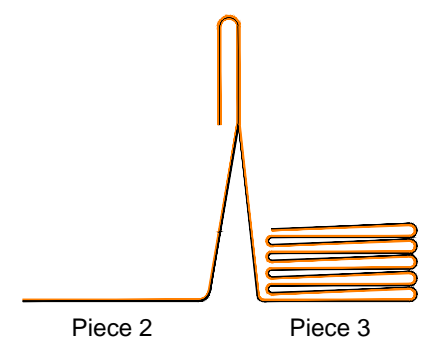

FIGURE 6
6. FOLD OVER EXISTING SEWN SEAM AND SEW A SECOND PASS AS SHOWN ON THE GENERAL SEWING INSTRUCTIONS, (FIGURE 6)